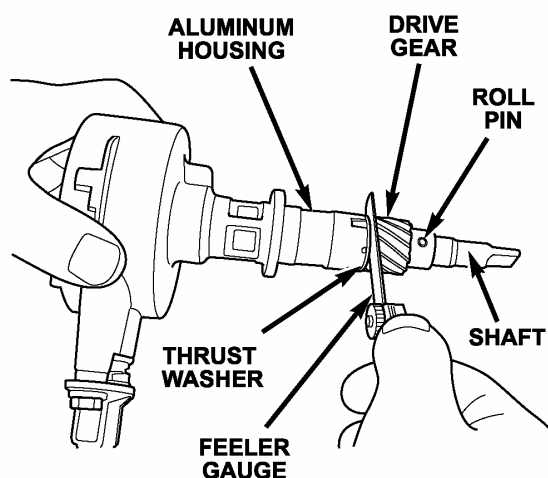

Figure 22
- f. Check the clearance between the drive gear and thrust washer using a feeler gauge (Figure 22). The clearance should be between 0.010" to 0.030" (0.25 mm to 0.75 mm).